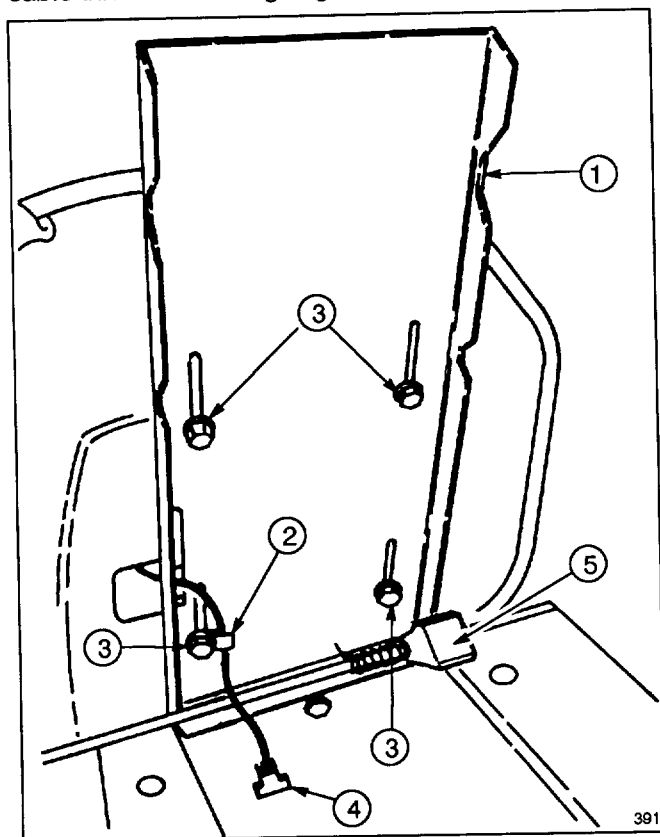

Figure 1
1. Position seat onto seat base, inserting seat switch cable thru slot and aligning mounting holes (Fig. 1).
2. Slide wire clamp over seat switch wire (Fig. 1).
3. Using left rear mounting slot in seat base, loosely secure wire clamp and seat to seat base with a capscrew and lockwasher (Fig. 1).
4. Mount seat to seat base with (3) remaining capscrews and lockwashers.
1. Tip seat up to expose battery. A seat prop latch on the underside of the seat will prevent the seat from falling rearward while working with battery (Fig. 1).